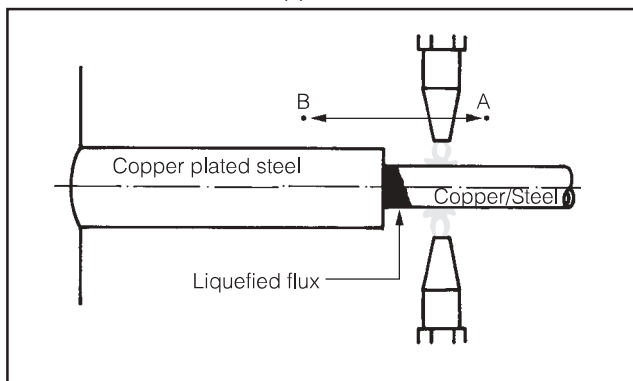

FIG. 8
3.1.2.3 With the torch, heat both the male and female tubes, from point A to point B and vice versa. Remember to avoid putting the flame into direct contact with the part coated with flux. (Fig. 8)